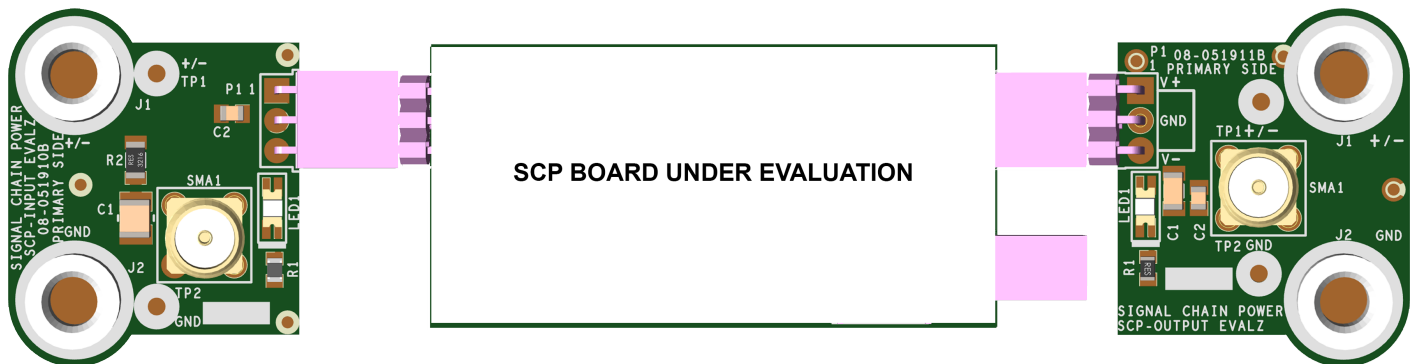

Figure 2. Proper Measurement Equipment Setup (Use SMA connectors for Measuring Input or Output Ripple)
2. Connect the SCP-INPUT-EVALZ and SCP-OUTPUT-EVALZ boards to the SCP board under evaluation (refer to Figure 2) and connect the input board to a voltage source, V_{SOURCE} . Connect the output board to a voltmeter or dynamic load. Slowly raise the input voltage until the SCP-INPUT-EVALZ powers up the device under test into regulation and sweep V_{SOURCE} through the desired range of operation.